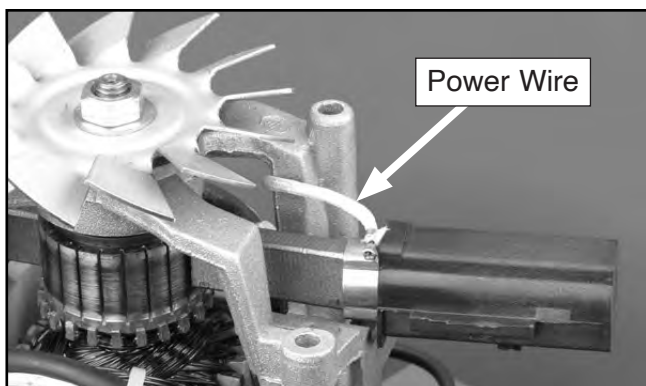

Figure 32. Brush housing removal.
6. Lift each brush housing out of its seat and unplug power wire (see **Figure 32**).